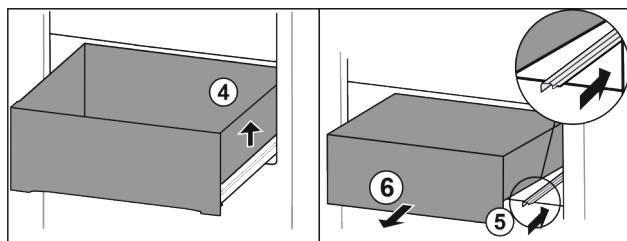

Fig. 89
► Lift drawer on the right. Fig. 89 (4)
► Insert right rail. Fig. 89 (5)
► Remove drawer to the front. Fig. 89 (6)